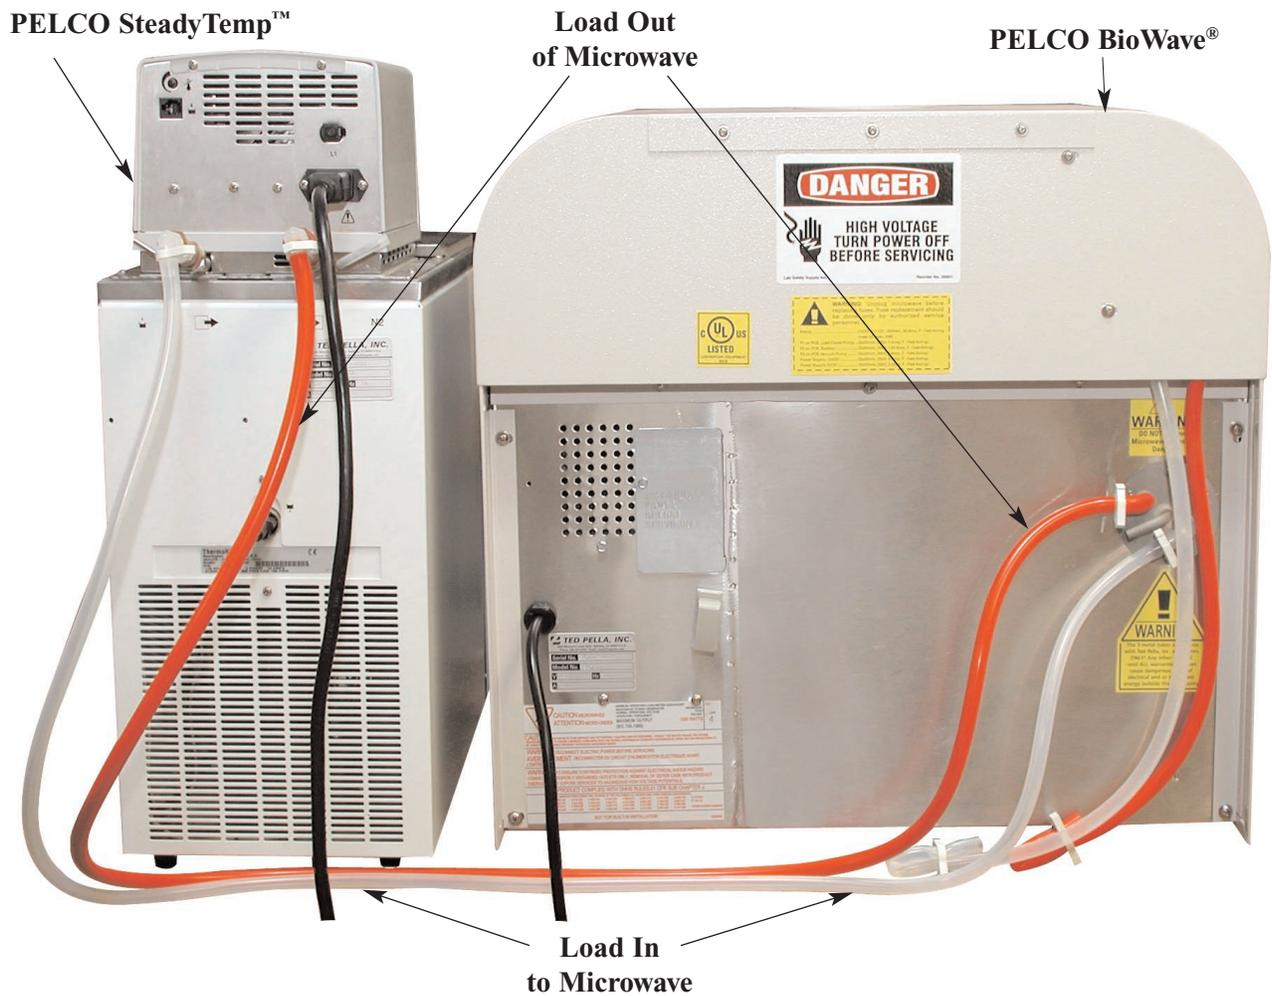

Figure 9 Connections: PELCO SteadyTemp™ to the PELCO BioWave® when using the PELCO ColdSpot®
- The designations of the "Load In" and "Load Out" ports on the PELCO ColdSpot[®] are different when used with the SteadyTemp[™] than when used with a Load Cooler. See Figure 9 and Figure 11 for an explanation.